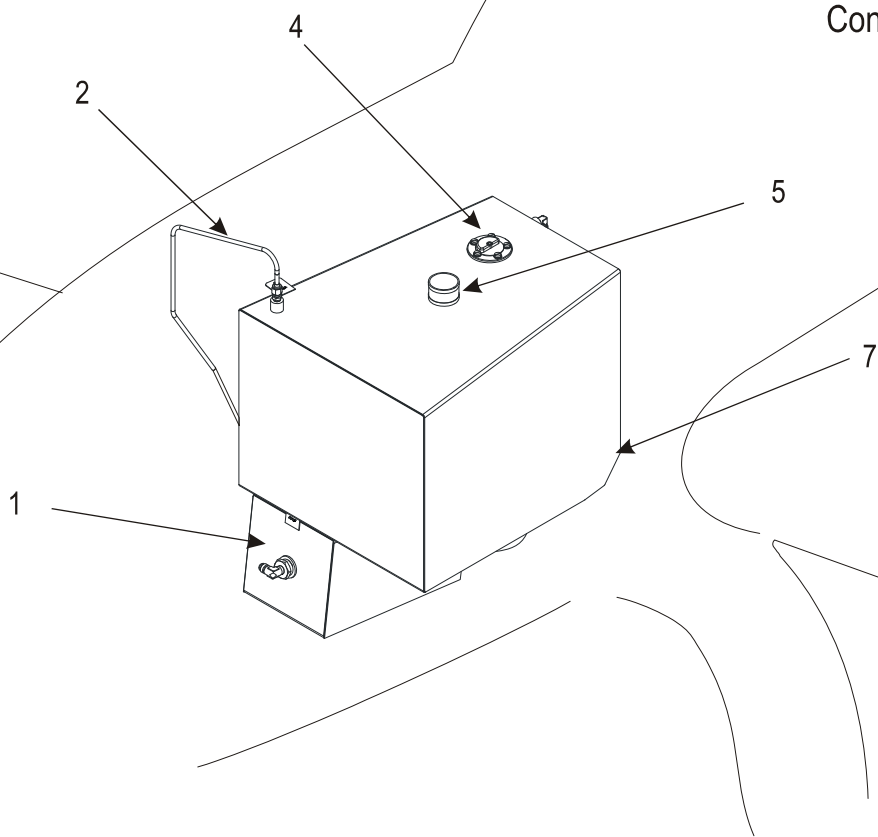

Figure 921-1, Center Tank Versions
Figure 921-1 shows both fuselage fuel tank configurations which are available for the EXTRA 300L ex factory. Item 6 shows the contour of the center tank with 42 L (11.1 US gal) capacity (configuration 1). Item 7 shows the contour of the center tank with 60 L (15.9 US gal) capacity (configuration 2). In each configuration the center tanks are located above the acro tank (1) having 9 L (2.4 US gal) fuel quantity. They are installed in the same place and in the same manner. This includes the vent line (2) and the fuel filler (5) location. However the steel tubes of the fuselage carrying the 60 L tank and its mounting have been reinforced. The configuration 1 fuel quantity probe (3) is located in front of the fuel filler (5), the configuration 2 probe (4) is located behind. The fuel quantity indicators are identical in both configurations.